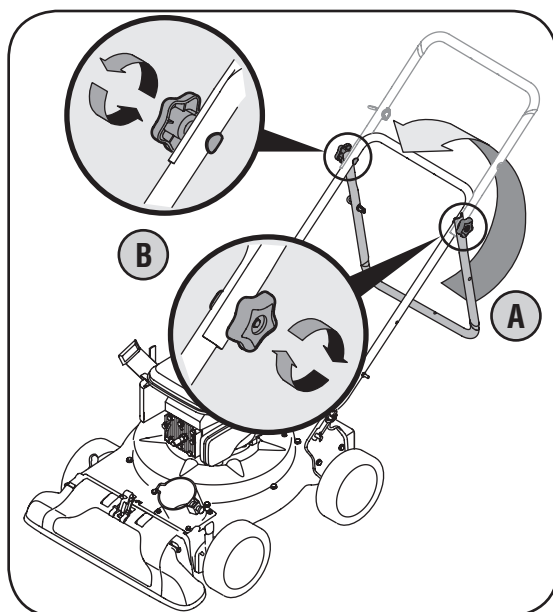

Figure 3-2
2. a. Unfold the upper handle until it aligns with lower handle. Make sure the rope guide is on the right side of upper handle. See Figure 3-2.
- b. Secure the two handles by tightening the star knobs (carriage bolts must be seated properly into the handle). See Figure 3-2.